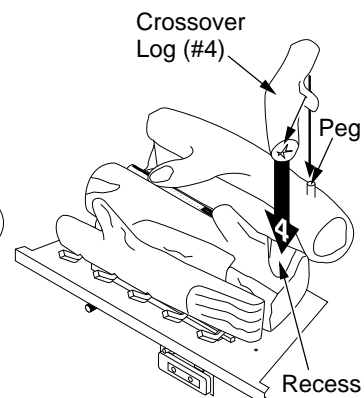

Figure 48 - Installing Crossover Log (#4)
4. Place crossover log (#4) onto the peg (right) on back log (#2) and into the recess of the middle log (#1) (see Figure 48).